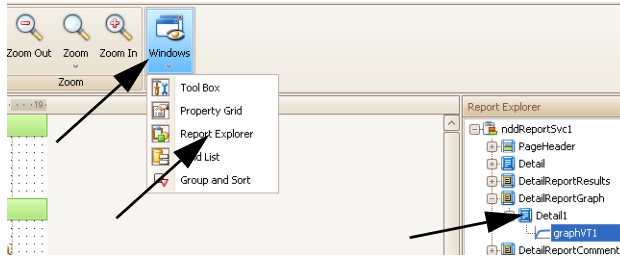

Fig. 10-7: Windows, Report Explorer, Detail Report Graph buttons
- Select **Windows** and then **Report Explorer** (Fig. 10-7:).
- Select **Detail Report Graph** (Fig. 10-7:).
- Click the small arrow in the upper right corner of the "Detail Report Graph" window (Fig. 10-7:).